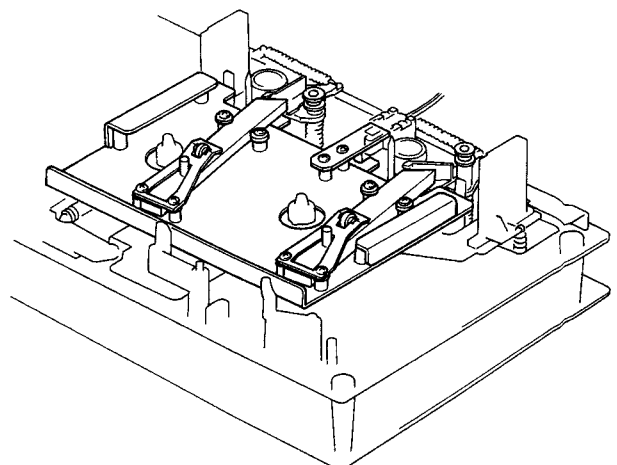

Fig. 4.8
Remove Head Mount Base Ass'y referring to item 2.21. Refer to Figs. 4.8 and 4.9.